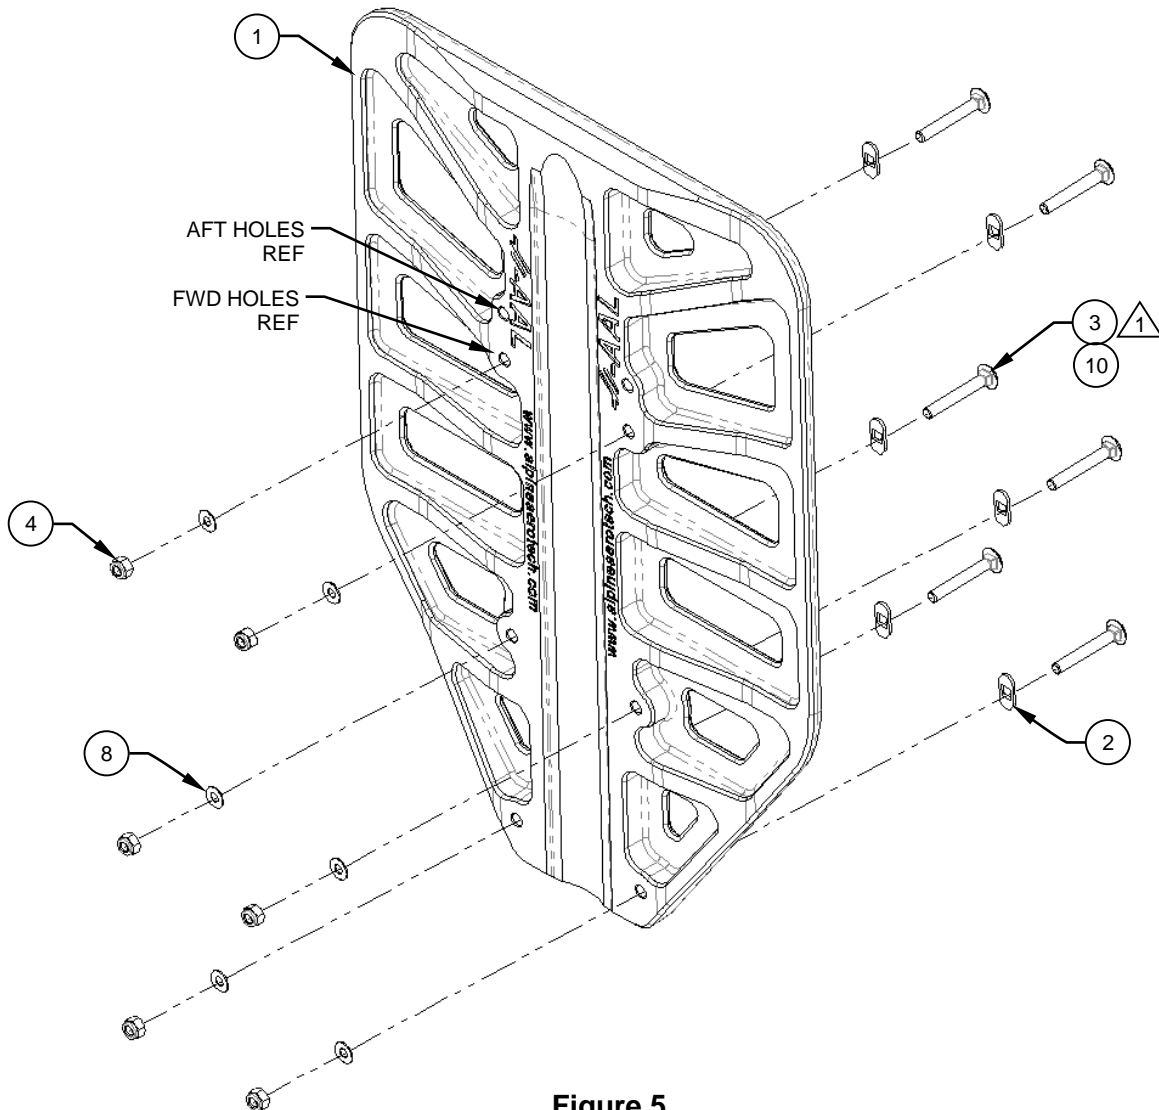

Figure 5
1. Pre-install the supplied hardware as shown. Reference Figure 5. Torque fasteners to 40 in-lbs.
NOTE: Regardless of standard, or Run-On Landing wear strips, the length of the skid shoe varies. Depending on where the skid shoe cross bolt is located, the aft most set of Carriage Bolts (Items 3 or 10) will have to be located in either the AFT or FWD set of holes, a trial fit will be required to determine the best location. See Figure 5.